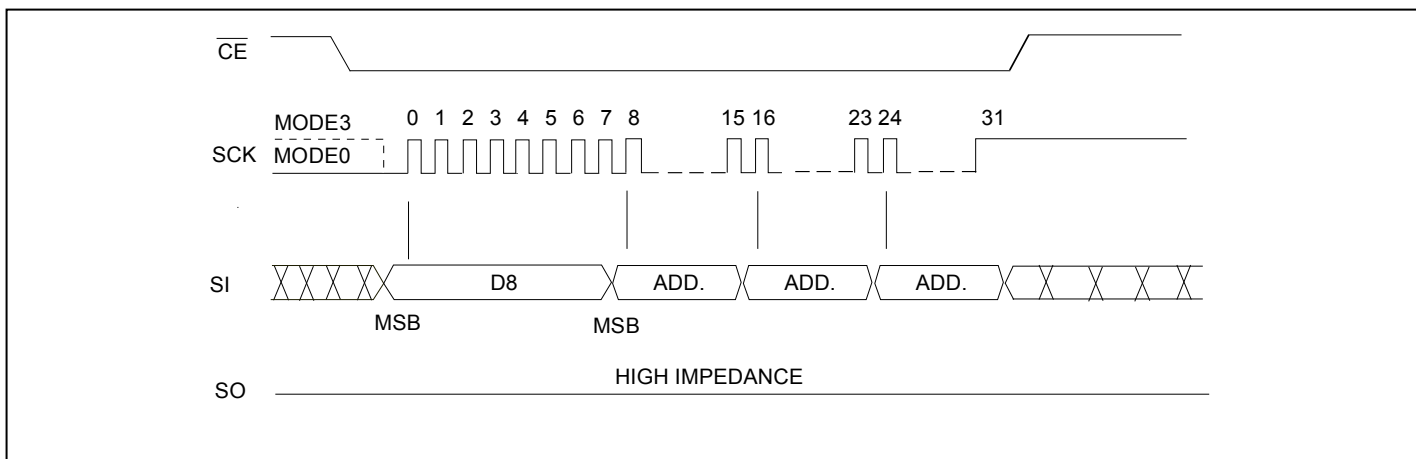

Figure 13: 64K-byte Block Erase Sequence
-A₀]. Address bits [A_{MS}-A₁₆] (A_{MS} = Most Significant address) are used to determine the block address (BA_x), remaining address bits can be V_{IL} or V_{IH}. \overline{CE} must be driven high before the instruction is executed. The user may poll the BUSY bit in the Software Status Register or wait T_{BE} for the completion of the internal self-timed Block Erase cycle. See Figure 13 for 64K Byte Block Erase sequence.